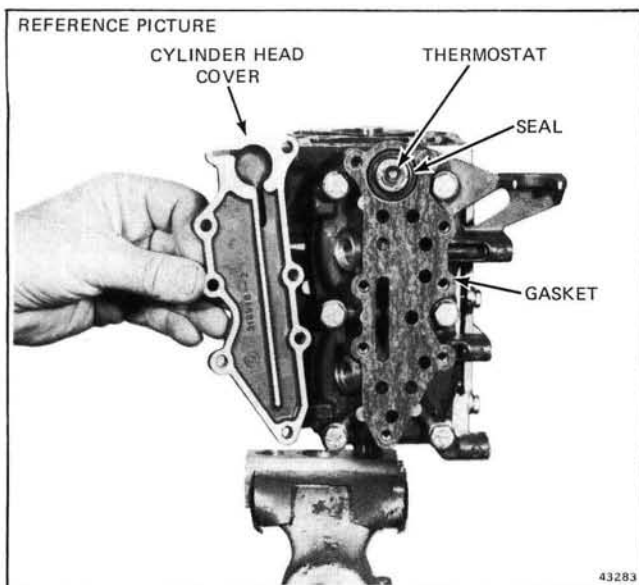

Figure 5-12. Cylinder Head Cover Removed
The thermostat housing, which is part of the cylinder head, contains the thermostat. Upon starting a cold motor the thermostat is closed and prevents the water pump from circulating water in the cooling system. Limited circulation as well as discharge of air from the cooling system is permitted by a bleed hole in the thermostat valve. When the power head and cooling system temperatures reach 145° F., (63°C) the thermostat valve opens, allowing heated water to pass through the water discharge and fresh water to be drawn through the water intake. The thermostat then continues to regulate power head temperature by periodically opening and closing as additional fresh water is required. To service thermostat, remove seven screws and cylinder head cover. See Figure 5-12. Install new gasket on reassembly.
c. Remove cylinder head cover, gasket, thermostat and seal. See Figure 5-12.